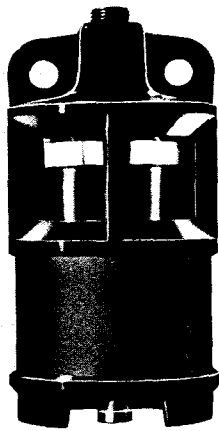

Fig. 5-35. Air inlet restriction gauge
1. The best method to tell when to change any dry-type air cleaner is by use of a filter restriction indicator which clearly indicates when the element is loaded. Fig. 5-35. Other indications are a loss of engine power or excessive smoke in the exhaust gases.
3. The filter restriction indicator, Fig. 5-35, signals when to change cartridges. The flag in the window gradually rises as the cartridge loads with dirt. Do not change cartridge until the flag reaches the top and locks in that position. When locked, the flag will remain up after the engine is shut down. Change the cartridge when the flag locks at the top. After changing the cartridge reset the indicator by pushing the re-set button. Push button all the way in firmly, then release. If button sticks, repeat pushing slowly.
A mechanical restriction gauge is available to indicate excessive air restriction. This gauge can be mounted in the air cleaner outlet or on the vehicle instrument panel. The gauge shows completely red in the indicator window when restriction reaches 20 inches of water. Fig. 5-35.